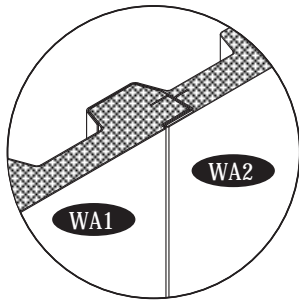

Fig.1
15. Make sure the panel join must be as shown in fig.1. Secure the wall panel with base 'U' channel by using (S1) screws from inside.